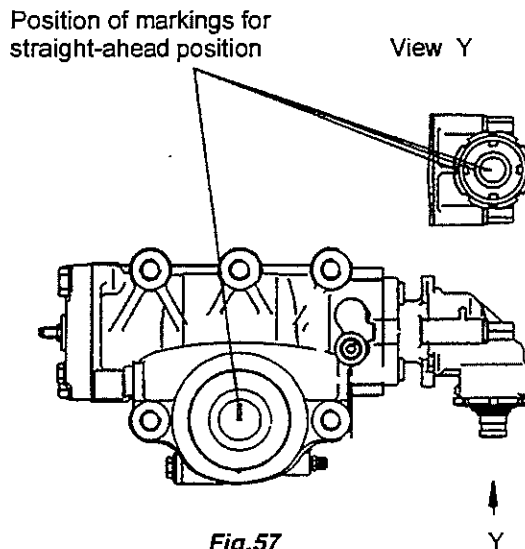

Fig.57
- 19.3.3 Check that the markings for the straight-ahead position are present as shown in *Fig.57*.